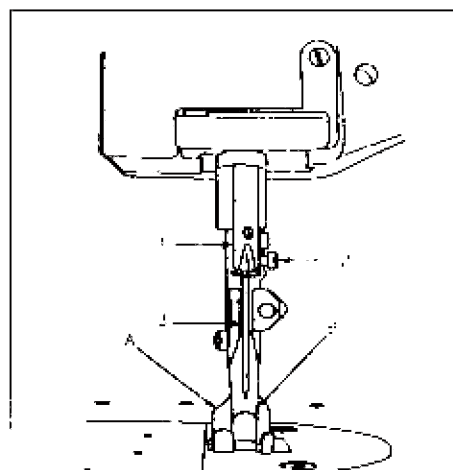

Fig. 5
4. REPLACE NEEDLES (Fig.5)
2) When altering the lift of the lifting presser foot (A Fig 5) unequally against that of the vibrating presser foot (B Fig 5) or vice versa, see the instructions "ADJUSTING THE HEIGHT OF THE PRESSER FEET".